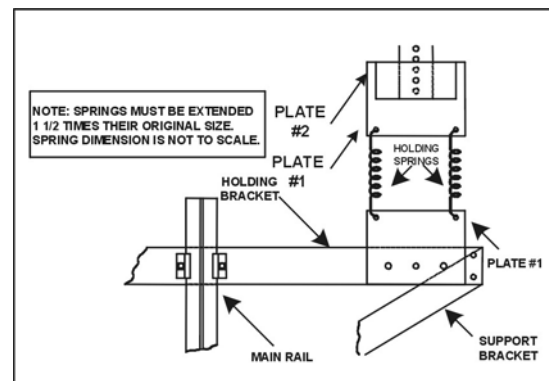

Figure 1-26
- Connect tension springs to plate #1 and to support bracket plate #1. [See Figure 1-26.]